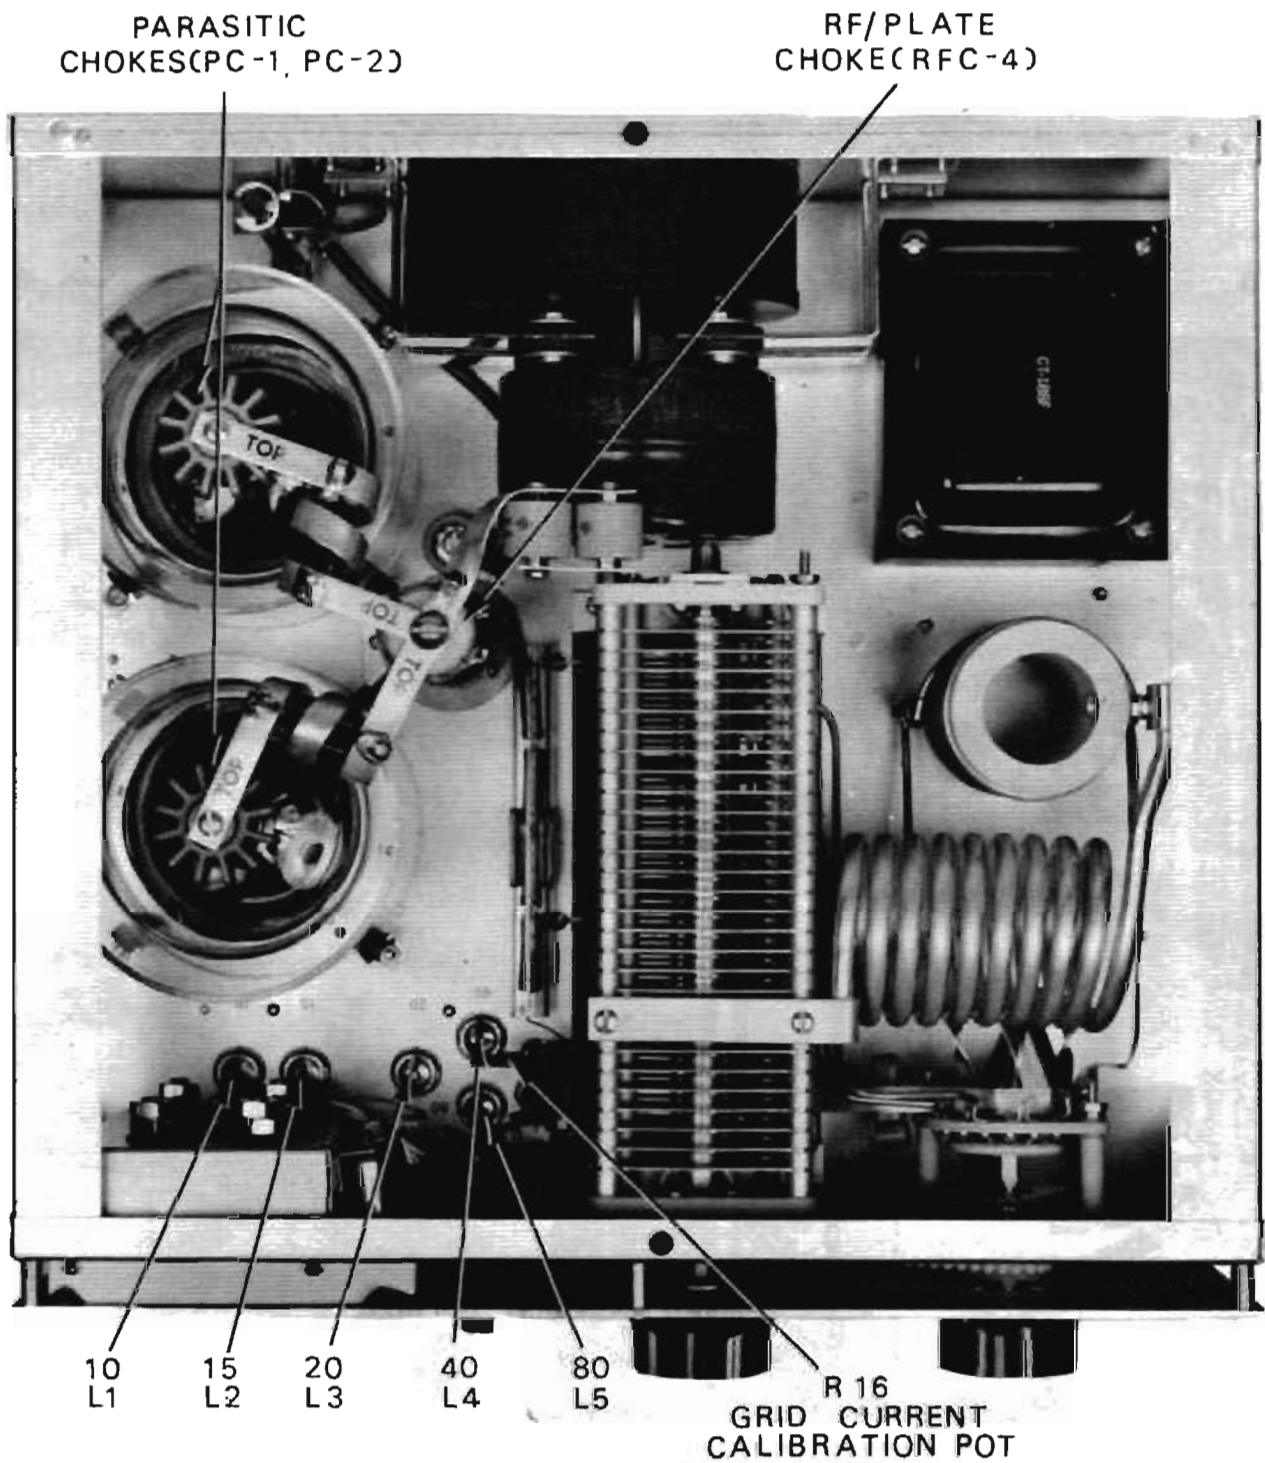

Figure 5-1. Component Locations, Top View
Refer to figures 5-1 and 5-2 as required to locate the components requiring adjustment.
- k. Refer to figure 5-1. Turn the slug in the correct input coil for a minimum reflected power reading on the SWR bridge.